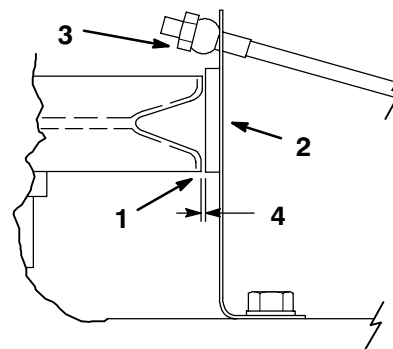

Figure 51
3. Using a feeler gage, measure between the bottom flange of (3) blade pulley and brake pad (Fig. 51). Adjust lock nut on brake rods to obtain proper clearance .020-.060 inch (.5-1.5 mm) (Fig. 51).